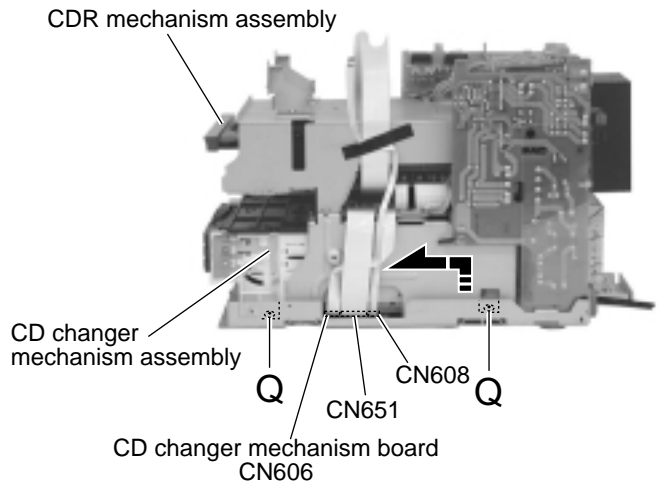

Fig.31
**■Removing the CD changer mechanism assembly (See Fig.31 to 33)**